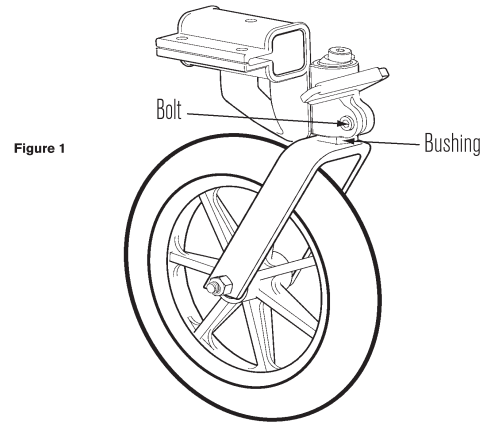

Figure 1
1. Loosen bolt using 5 mm hex wrench. **Figure 1**